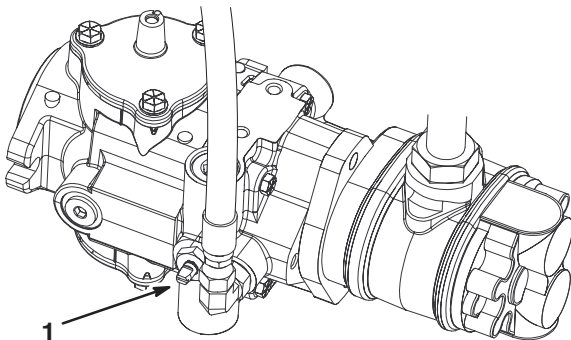

Figure 34
1. Locate the bypass valve on the pump and rotate it so that the slot is vertical (Fig. 34).
2. Before starting the engine, close the bypass valve by rotating it so that the slot is horizontal (Fig. 34). Do not start the engine when the valve is open.